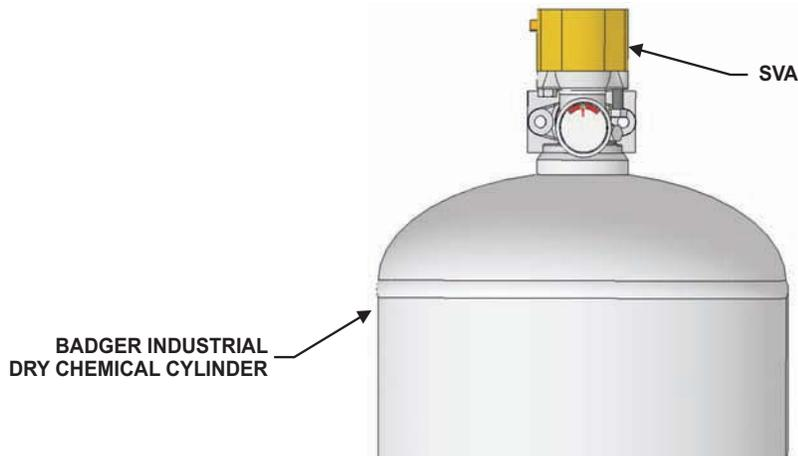

Figure 5-5. System Valve Actuators
7. Remove the System Valve Actuators (SVAs, P/N B120042) from all cylinders. See Figure 5-5 for location.